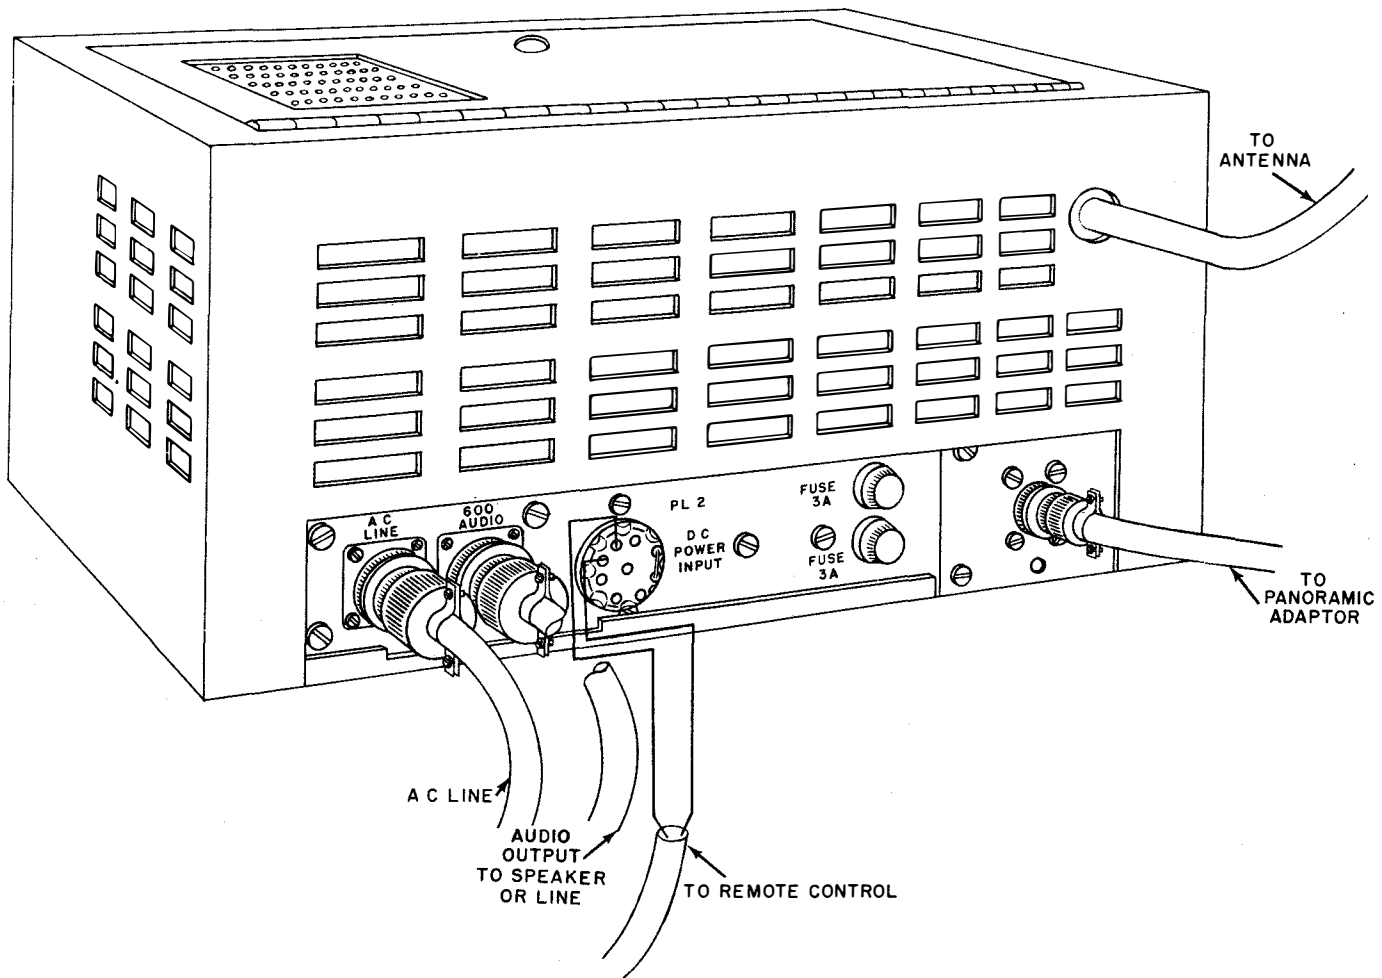

Figure 3-3. Radio Receiving Equipment Navy Model RBK-16, View Showing Cables and Plugs Attached.
f. When batteries are used to power the receiver, 6 volts at 4.5 amp. is connected with the positive (+) lead to pin 7 of the unwired duplicate of plug PL2, and the negative (-) lead to pins 1 or 8. The 270 volts at 145 ma. is connected with the positive (+) lead to pin 3 and the negative (-) lead to pin 5. (See figures 3-3 and 3-5).
g. To remote control the REC.-SEND switch, a jumper is inserted across pins 6 and 7 of the unwired duplicate of plug PL2, and the remote switch is connected between pins 3 and 4. (See figures 3-3 and 4-3).
b. The antenna lead-in is connected to plug PL3 a type CN-49121A and inserted in socket SO3 on the rear of the receiver. (See figure 3-3).